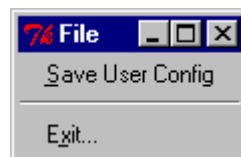

Figure 4-14. File Drop-down Menu
1. Click **F**ile in the menu bar at the top of the framework interface window. The **F**ile drop-down menu appears. Figure 4-14 shows the **F**ile drop-down menu: